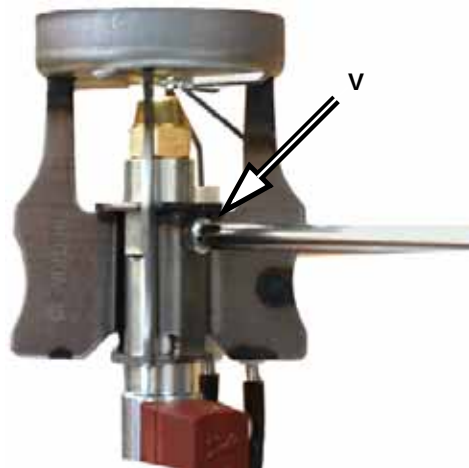
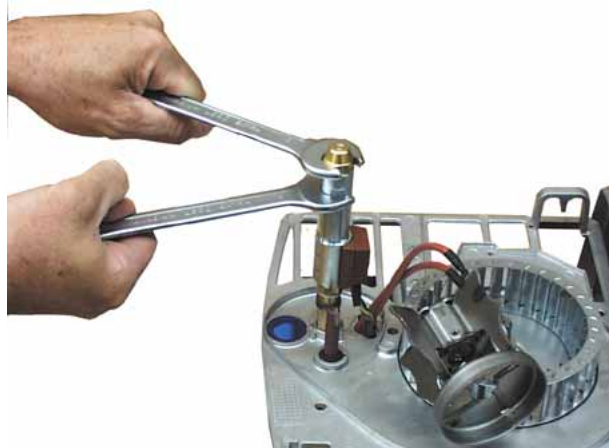

Fig. 15
Fig. 16
- Unscrew the V screw that fastens the combustion head and remove the head from the nozzle-holder (Fig. 15 - Fig. 16).
- Reassemble the combustion head by respecting the position A measured previously, making sure to fasten the V screw (Fig. 15).